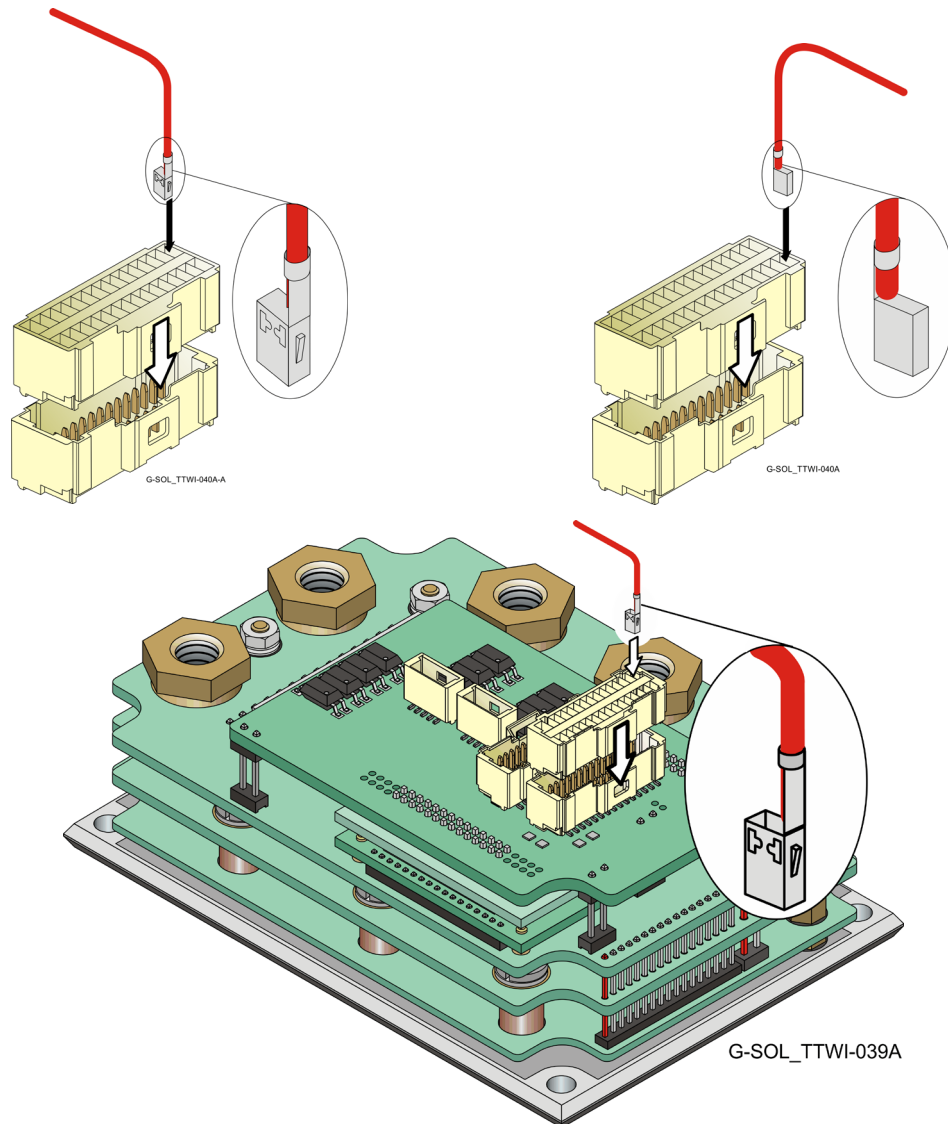

Figure 6: Inserting a wire/pin to the Female Connector
3. Place the connector on a flat surface, in the orientation as shown in Figure 6. Notice that the rectangular slot has a niche at the bottom of the slot.
4. Insert the wire connector to the slot as shown in Figure 6. Make sure that the connector protrusion is inserted to the bottom of the rectangular slot.